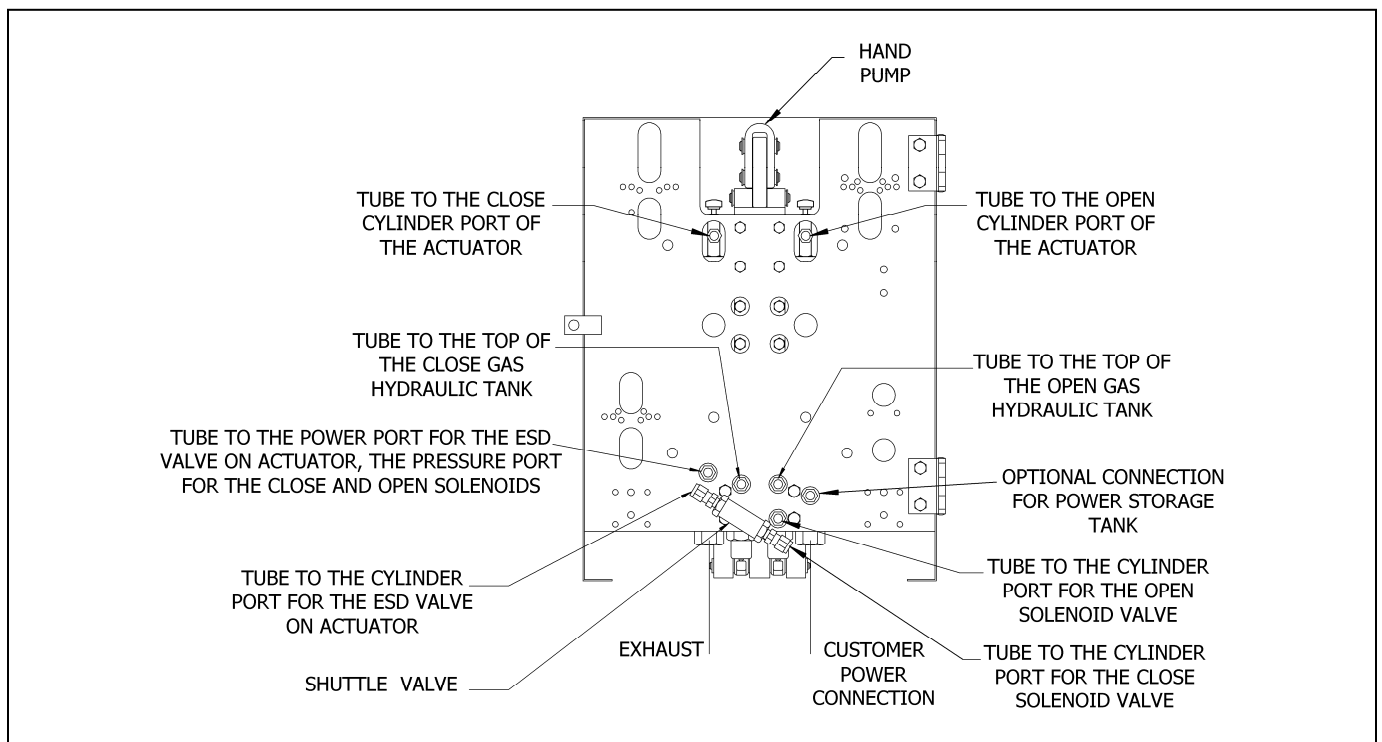

Figure 10A: View of the Control from the Back With ESD Fail Close (see Schematic 8357-S)
NOTE: When facing the back of the control box the CLOSE cylinder port is on the left and the OPEN is on the right (see Figure 10A or 10B).
25. If an optional power storage tank is in use, find the optional connection for the power storage tank to the right of the OPEN cylinder port of the poppet block control valve, when facing the back of the control (see Figure 10A or 10B). Run tubing from this port to the top power storage as originally plumbed.
The CLOSE pilot port of the Poppet Control Block will be connected to a Shuttle Valve, expanding it to two ports (see Figure 10A).